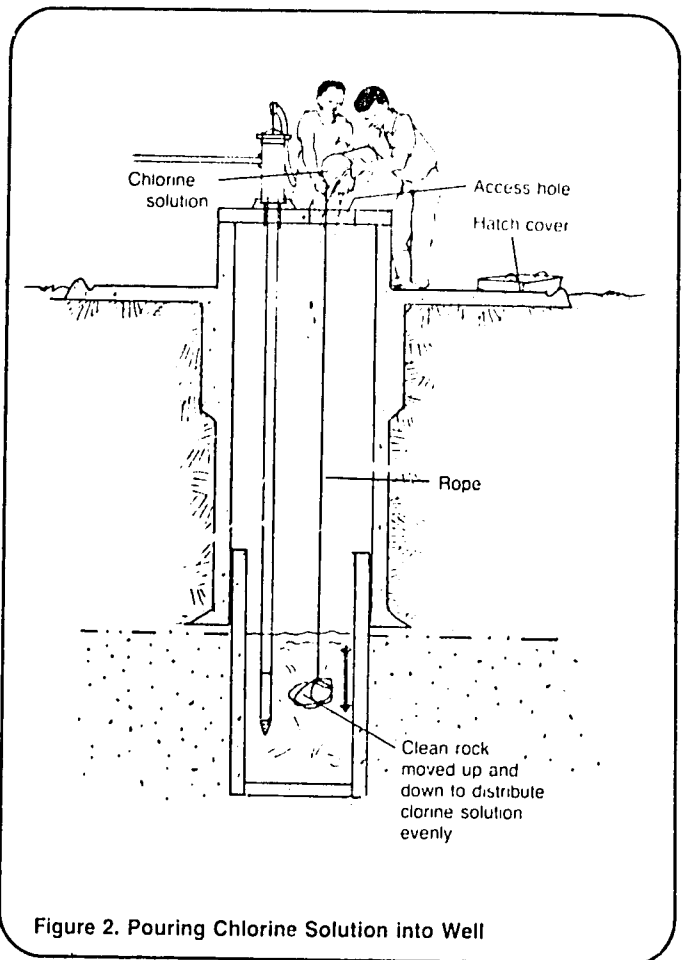

Figure 2. Pouring Chlorine Solution into Well
6. Calculate the amount of chlorine solution needed to disinfect the well. Prepare the solution and pour it through the access hole in the cover, making sure that the solution covers as much of the surface of the water in the well as possible. See Figure 2.